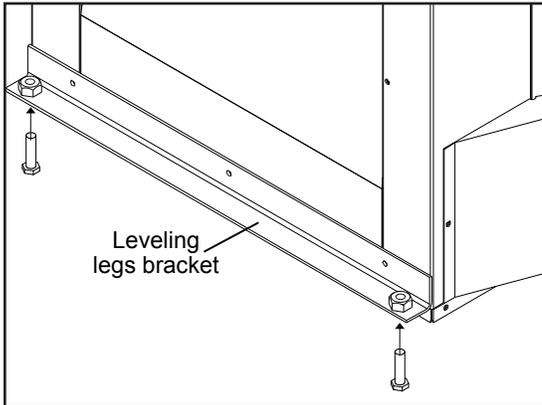

Figure 15: Installation of Leveling Legs.
5. Remove the vent collar plate from the top of the stove by unscrewing the two (2) T-20 Torx screws located on the center top of the stove. Slide collar plate backwards. Properly secure the vent collar plate to the flexible vent pipe liner(s) previously installed in the chimney. Be careful not to over-stretch the liner(s).
6. Install the leveling legs. Thread the two (2) 5" (13 cm) bolts and locknut up into the captive nuts at each end of the leveling leg bracket (refer to Figure 15).